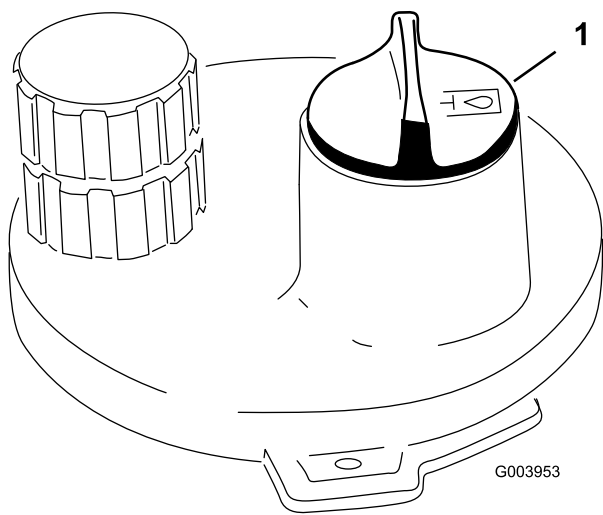

**Figure 36**
2. On the right side of the machine, raise the hydraulic tank cover (Figure 36).